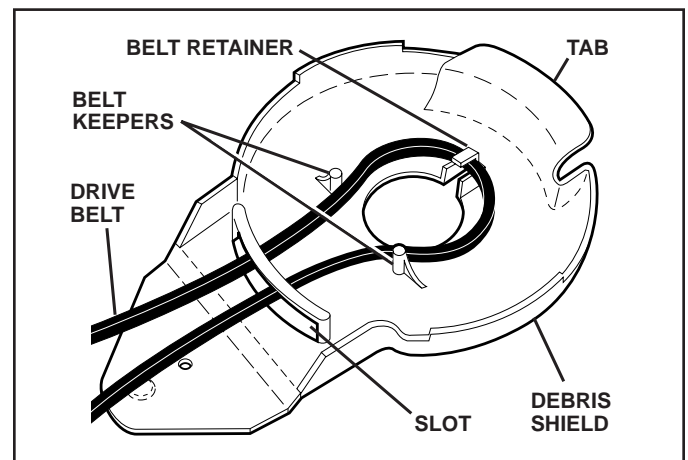

FIG. 19
1. Place new drive belt in the belt retainer of the debris shield. Be sure to route belt between belt keepers and through slot as shown (See Fig. 19).